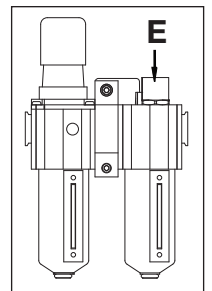

Figure 6
The adjustment screw (E) is factory-adjusted fully clockwise, so no oil is delivered to lubricate the system. To make initial adjustment, turn on the air and start flow to the system. Turn knob to adjust oil drip rate. Turning knob counter-clockwise increases drip rate. (see Fig. 6) Set the drip rate to one or two drops per minute initially and fine tune the rate after the system reaches its normal operating temperature.
Pull knob straight up to unlock. The adjustment knob must be turned clockwise to increase and counter-clockwise to decrease outlet pressure setting. To reduce pressure, first reduce to a pressure less than that desired, then increase to the desired outlet pressure. (See figure 6.)